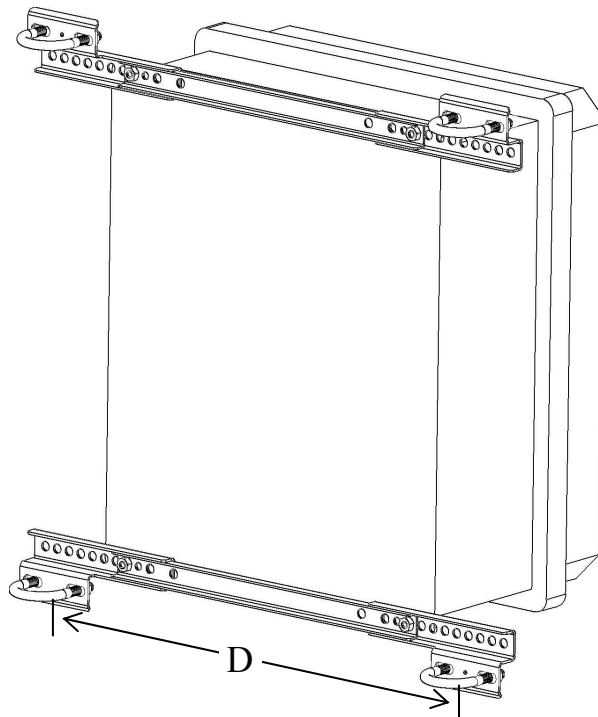

FIGURE 4-4. Enclosure brackets configured for a tower mount.
The “-TM” option is used to attach our enclosures to a UT10 tower. An enclosure ordered with the “-TM” option will be shipped with a three-piece bracket mounted to the top of the enclosure and an identical three-piece bracket mounted to the bottom of the enclosure. This mounting bracket option uses the same three-piece brackets as the “-MM” option, except the pieces are rearranged so that the flanges are on the side of the bracket instead of in the middle. The distance between the centers of each flange needs to be 10.25” (see Figures 4-4, 4-5, and 4-6).
same three-piece brackets as the "-MM" option, except the pieces are rearranged so that the flanges are on the side of the bracket instead of in the middle. The distance between the centers of each flange needs to be 17" (see Figures 4-4, 4-5, and 4-6).
2. Slide out the flange sections so that the distance between the centers of each flange is 17" (see Figure 4-4).